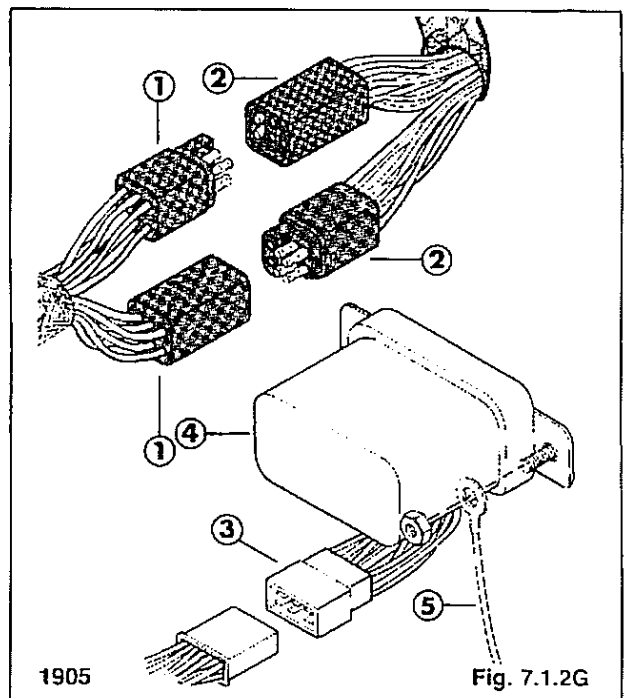

Fig. 7.1.2G
12. Connect the ground wire at the voltage regulator mount (Fig. 7.1.2G).
13. Connect the voltage regulator wiring harness at the connectors (Fig. 7.1.2G).
14. Connect the engine wiring harness with the ROPS wiring harness (Fig. 7.1.2G).